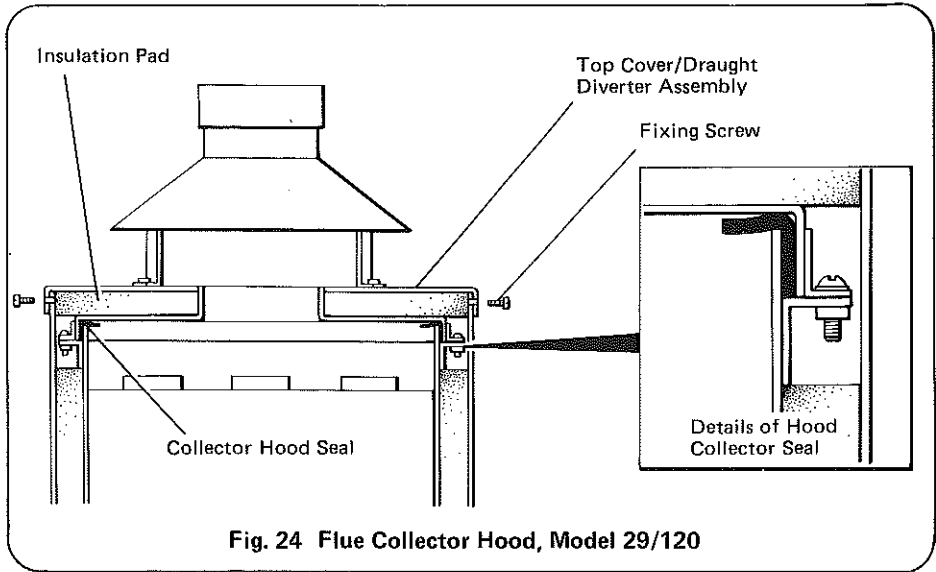

Fig. 24 Flue Collector Hood, Model 29/120
MODEL 29/120 (see Fig. 24).
5. By withdrawing the four holding down bolts remove the collector hood top plate and seal (see Fig. 24).
8. After cleaning all flue-ways and baffles, inspect visually the flue hood seal (Fig. 24). If the seal is seen to be damaged it must be replaced.